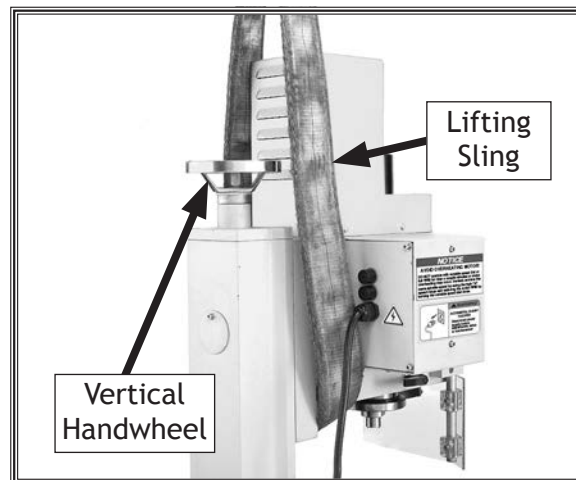

Figure 8. Headstock positioned for lifting.
2. Use vertical handwheel to raise headstock as far as possible (see **Figure 8**). Lock headstock in place to avoid sudden shifts during lifting.
3. Hang lifting sling from forklift fork and place it under headstock, as shown in **Figure 8**. DO NOT place sling over any controls or against any components that may be damaged from the force required for lifting.